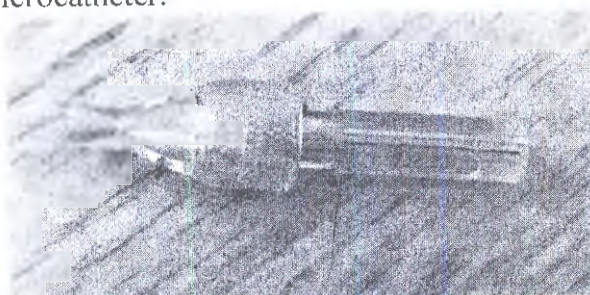

Figure 5 - Rotating device (torquer)
- ❖ Rotating device (torquer) (figure 5), which secures the guide firmly and assists to rotating and advancing the microcatheter.